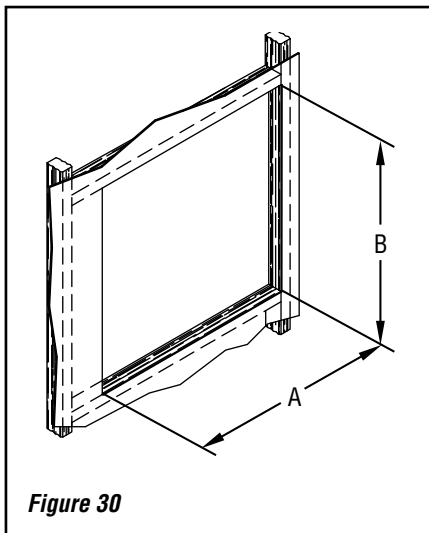

Figure 30
2. Locate the area where the chimney section is to penetrate the vertical wall studs. Cut and frame an opening so that the flue is centered between the vertical wall studs. Frame opening per **Figure 30** and **Table 5**.